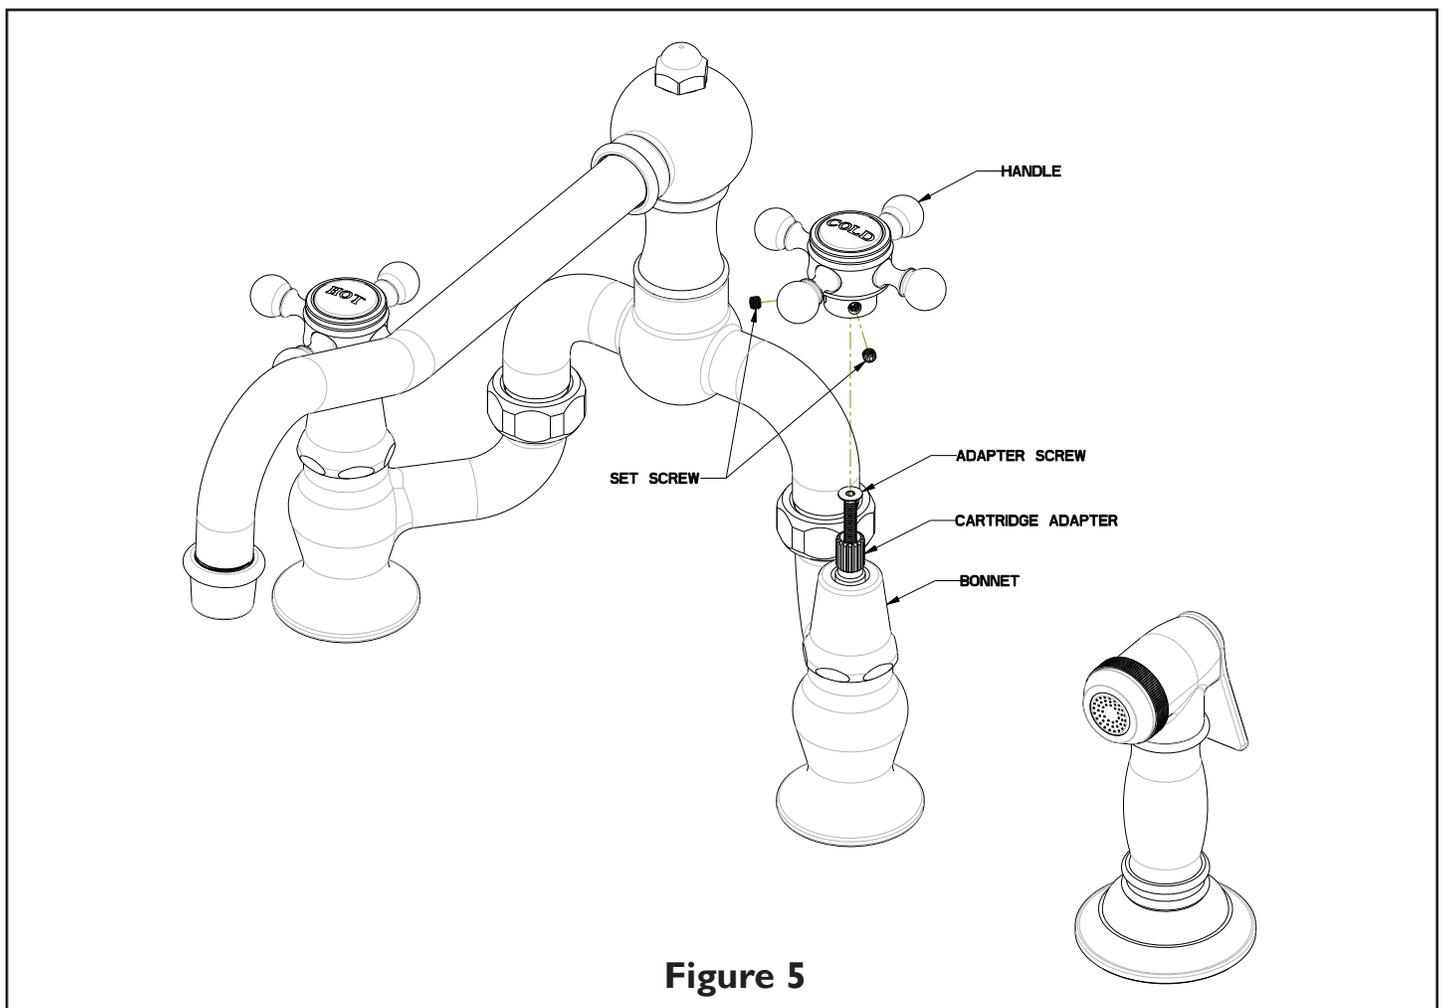

Figure 5
1. In **Figure 5**, ensure cartridges in full closed position and check **HANDLE** alignment. If the **HANDLE** is not correctly aligned, temporary remove the **HANDLE**, loosen up (but do not completely remove) the **ADAPTER SCREW** and rotate **CARTRIDGE ADAPTER** one tooth clockwise (18 degrees), reassemble the **HANDLE** and recheck alignment. Repeat until the **HANDLE** is aligned.